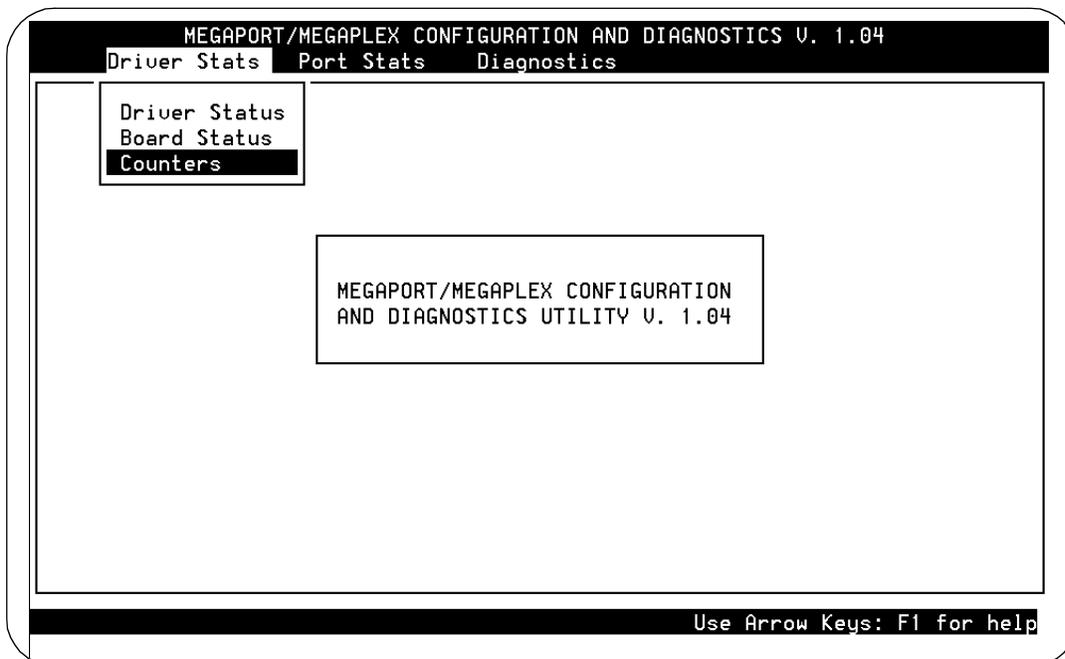

Figure 2-27. Megaport and Megaplex Configuration and Diagnostics Screen
The system displays the Megaport and Megaplex Configuration and Diagnostics screen (Figure 2-27).
1. Start at the Megaport and Megaplex Configuration and Diagnostics screen (Figure 2-27).